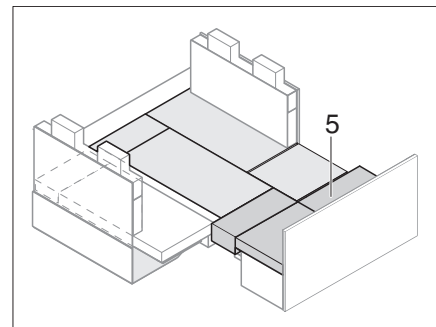

Fig. 219 After extending
- Insert the additional cushion (Fig. 219,5).